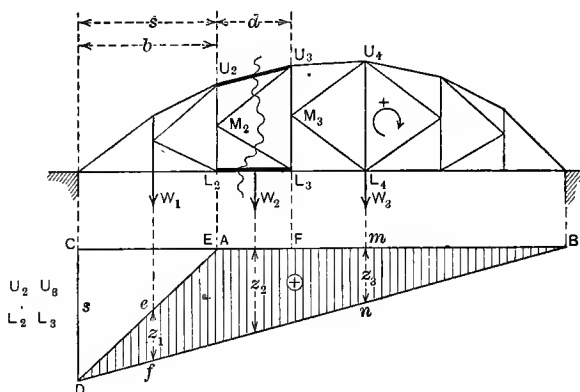

FIG. 26.
**Chords of the "K" Truss.**—The truss shown in Fig. 26 is called the "K" truss since the web members form